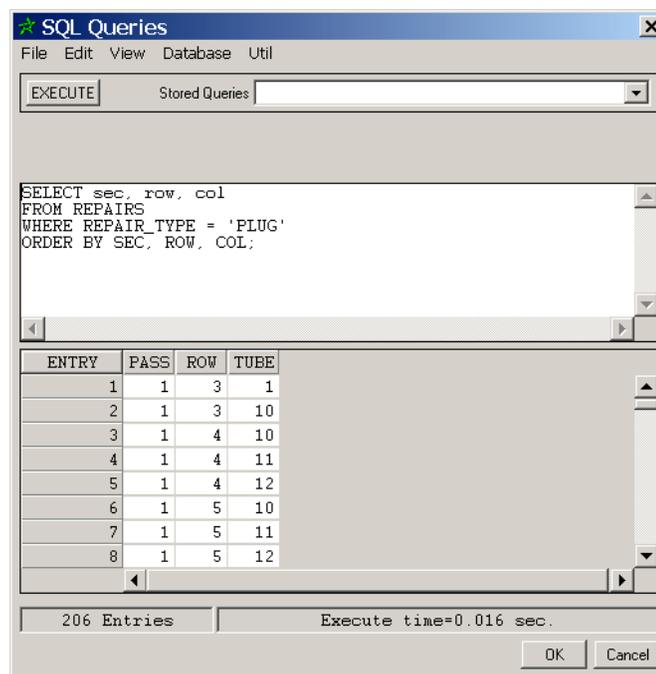

Figure 16-1. Executing a Query in the Query Dialog
- STEP 7:** Click the *Execute* button in the upper left of the *Query* dialog. As shown in Figure 16-1, a list of 206 entries should appear in the lower section of the *Query* dialog.